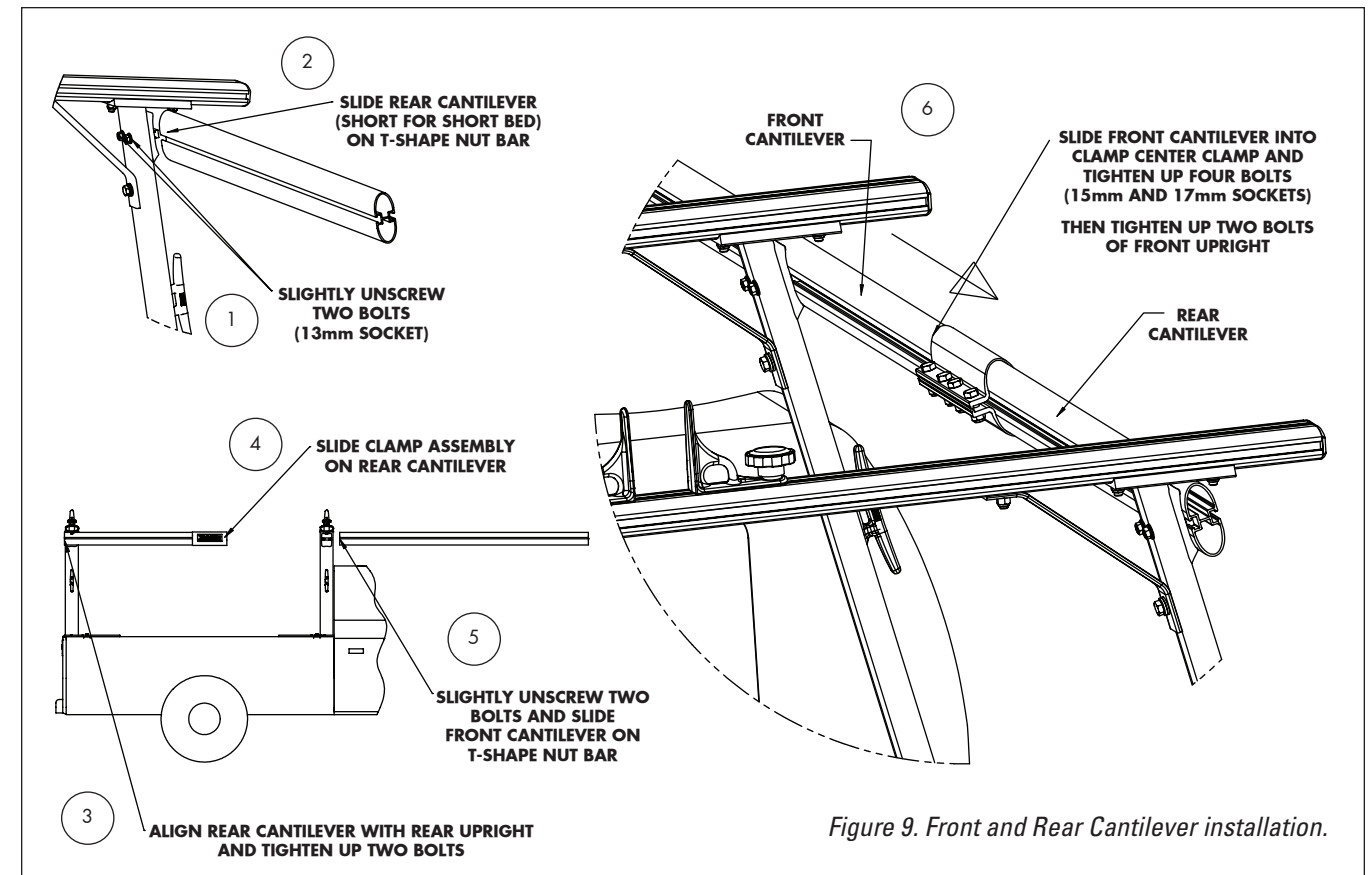

Figure 9. Front and Rear Cantilever installation.
9. Follow steps 1 through 6 (See Figure 9) to install the front and rear cantilevers.